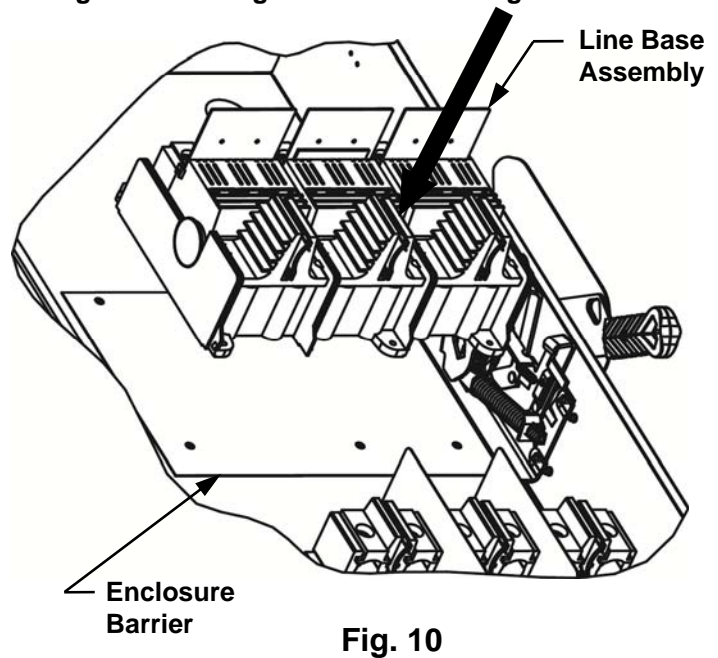

Fig. 10
- Place new the line base assembly into the enclosure as shown in Fig 10.